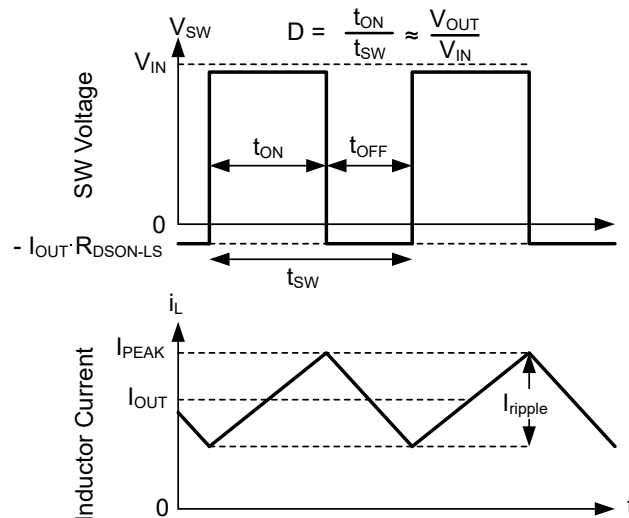

Figure 7-15. SW Voltage and Inductor Current Waveforms in Continuous Conduction Mode (CCM)
The following operating description of the device refers to Section 7.2 and to the waveforms in Figure 7-15. In CCM, the device supplies a regulated output voltage by turning on the internal high-side (HS) and low-side (LS) switches with varying duty cycle (D). During the HS switch on time, the SW pin voltage, V_{SW} , swings up to approximately V_{IN} , and the inductor current, i_L , increases with a linear slope. The HS switch is turned off by the control logic. During the HS switch off time, t_{OFF} , the LS switch is turned on. Inductor current discharges through the LS switch, which forces the V_{SW} to swing below ground by the voltage drop across the LS switch. The converter loop adjusts the duty cycle to maintain a constant output voltage. D is defined by the on time of the HS switch over the switching period: